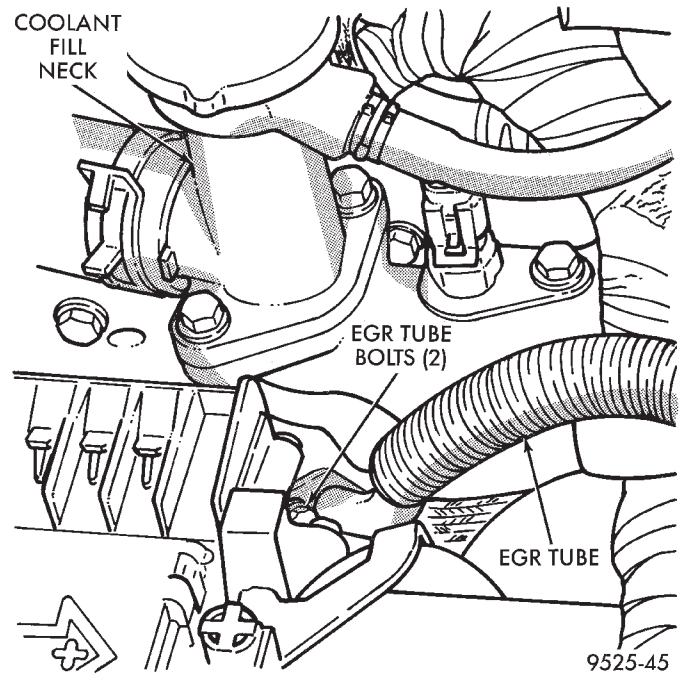

Fig. 13 EGR Tube at EGR Valve
- (2) Remove EGR tube to EGR valve screws (Fig. 13).